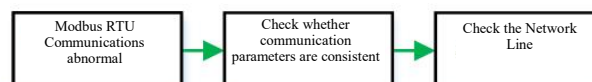

Figure 6-2-5 Troubleshooting process
- If the communication is abnormal, the troubleshooting process is shown in Figure 6-2-5